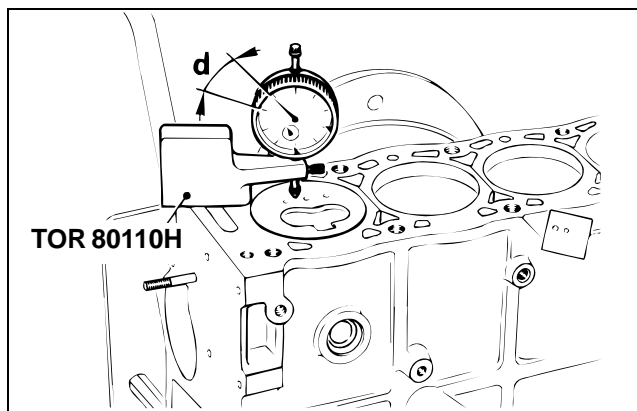

Figure 82
3. Note the maximum protrusion (Fig. 82, Item d).